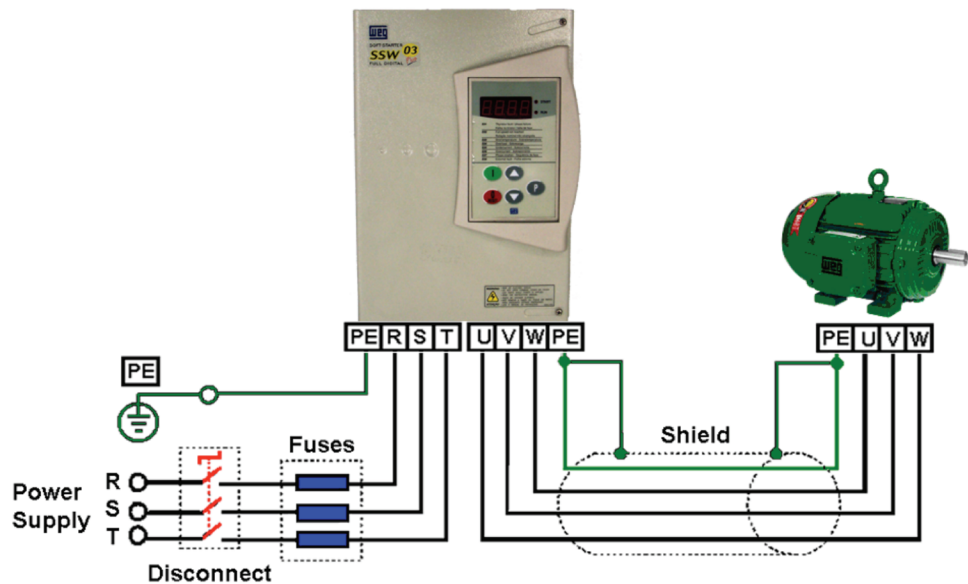

Figure 1 - Power and Grounding Connections
- 2. For three-phase input power connect the incoming power leads to the R, S, and T connections on the power terminal and connect the GROUND lead to PE on the chassis (Refer to Figure 1). Connect the motor leads to the U, V, and W connections on the power terminal and connect the GROUND lead to PE on the chassis (Refer to Figure 1). **Note:** Only three-phase AC motors can be used.